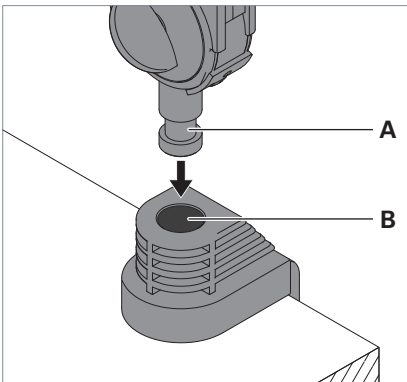

Fig. 2: Mounting the light to the fastening element.
- ▶ Insert the stud **A** on the light support into the opening **B** of the fastening element, see Fig. 2.